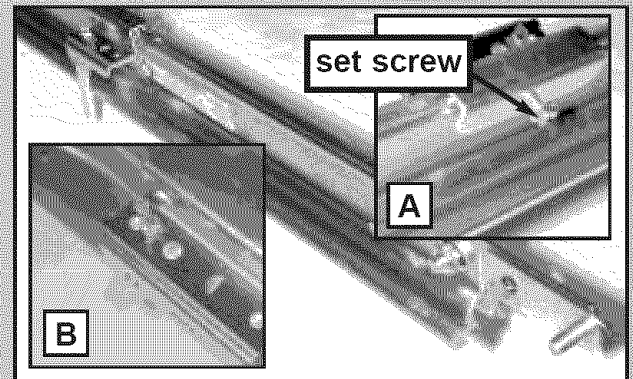

Fig. 1-19
- Place “CLOSE” limit switch over top of rail about 12 inches from rail strap. **Fig. 1-19.**